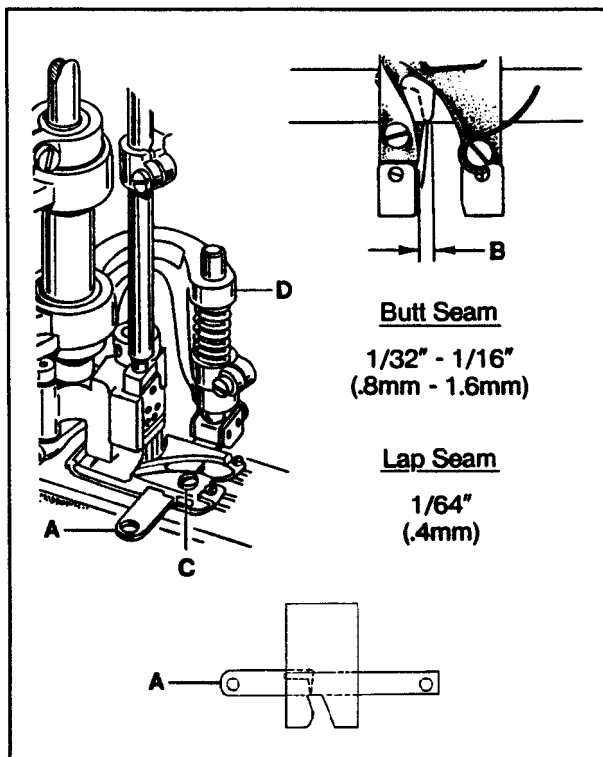

FIG. 29
To make the adjustments for a flat, butt seam, position lower knife (A, Fig. 29) in the foot so it extends 1/32" to 1/16" (0.8mm to 1.6mm) past the right side of the left toe (B) (approximately between the second and third needles). Loosen screw (C) and move knife in or out as required. Tighten screw (C) securely.
To make the adjustments for a lap seam, position lower knife (A, Fig. 29) in the foot so it extends 1/64" (0.4mm) past the right side of the left toe (B) (approximately even with the first needle). Loosen screw (C) and move knife in or out as required. Tighten screw (C) securely.